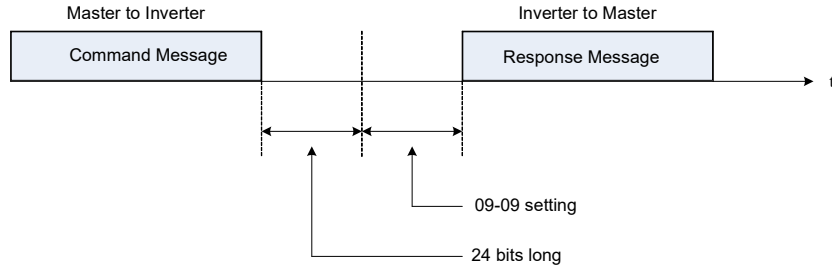

Figure 4.3.102 Message Timing Window
- (5) RS-485 Communication Error Detection Time (09-06).
- (6) RS-485 Communication Fault Stop Selection (09-07).
- (7) Communication Fault Tolerance Count (09-08).
- (8) Inverter Transmission Wait Time (09-09).
- Sets the response wait time (refer to Figure 4.3.102). If a response is not received after a command is sent, additional time may be required to switch from receive mode to transmit